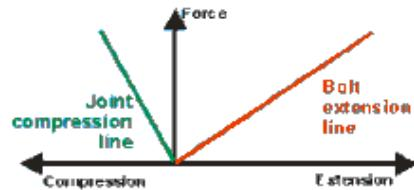
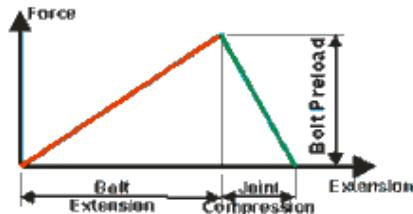

Fig. A1
Fig. A2
Alternatively, a Force-Deformation plot can be also used instead of the Resultant (W) vs. Effective Load (W_e). In Fig. A1 on the right, the clamped components are shown to the left of the Force-axis, while the bolt is to the right; The slope of each load line equals the stiffness of the corresponding member.
If the compression line in Fig. A1 is shifted to the right, we will construct the familiar bolted joint triangle as shown in Fig. A2. It is a triangle since the bolt and the clamped parts are under the same amount of force; This force we call the "bolt pre-load", W_i .